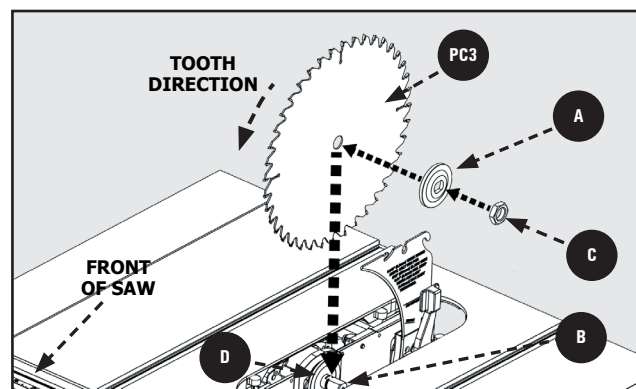

FIGURE 8
6. Place Blade (PC3) on the Arbor Shaft (B) with the teeth on the Blade pointing toward the front of the saw. Place Outer-Blade Washer (A) on the Arbor Shaft with the large side of the Washer against the Blade, then secure Blade Assembly with Nut (C). See Figure 8.